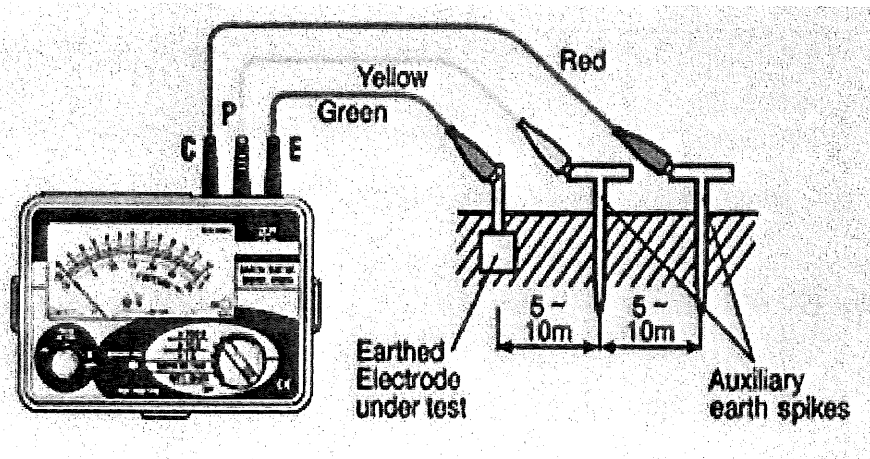

Figure 3
- a) List three (3) types of protection device. (3 marks)
- List three (3) tests to be done during installation. (3 marks)
- e) Explain the testing and commissioning procedure for earthing system as shown in Figure 3 below.